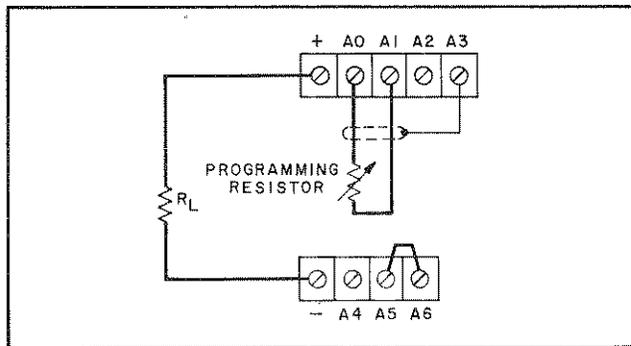

Figure 3-3. Remote Resistance Programming, Constant Current
3-19 Resistance Programming (Figure 3-3). In this mode, the output current varies at a linear rate determined by the remote resistance programming coefficient. This coefficient is different for each output current range, as shown in Table 1-1 of this manual. The programming coefficient is determined by the constant current programming current which is adjusted to  $1\text{mA} \pm 0.25\%$  at the factory. If greater programming accuracy is required, it can be achieved by adjusting resistor R32 as outlined in Paragraph 5-66.
3-36 It is possible to simultaneously remote resistance program and externally modulate the dc current output simply by combining the strapping patterns of Figures 3-3 and 3-8 as follows:
- c. Connect remote programming resistance between terminals A0 and A1 as shown in Figure 3-3.